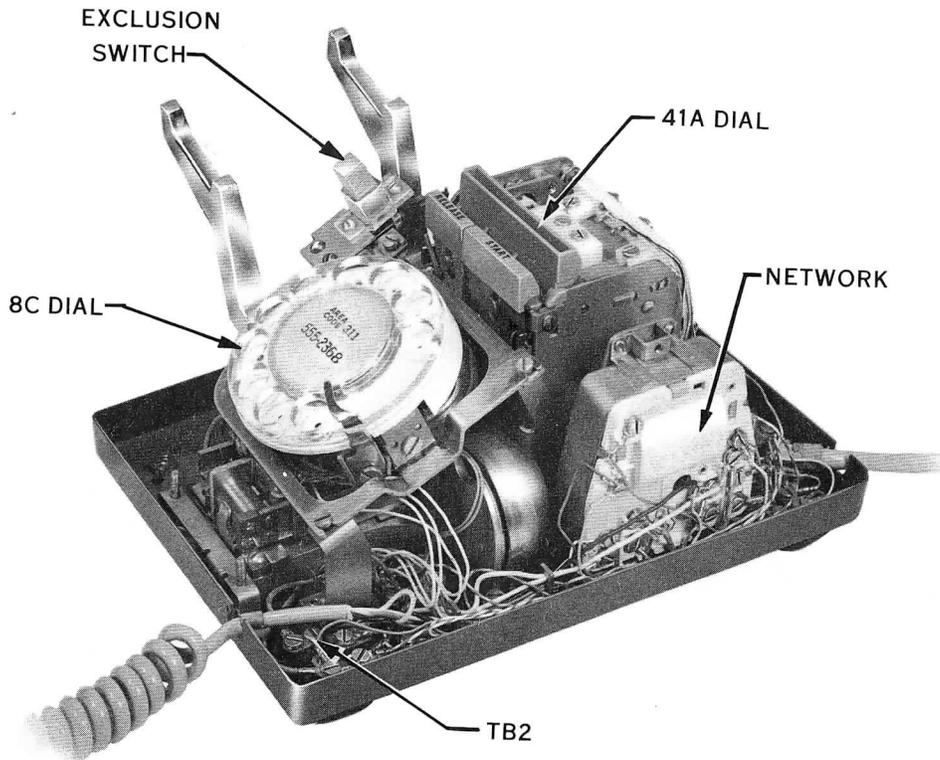

Fig. 3 — 660-Type Telephone Set, Cover Removed
2.05 The 660- and 663-type telephone sets feature both an 8C dial and a 41A dial (Fig. 3). The 41A dial is an electromechanical dial driven by an ac synchronous motor. The motor requires a low voltage power supply.